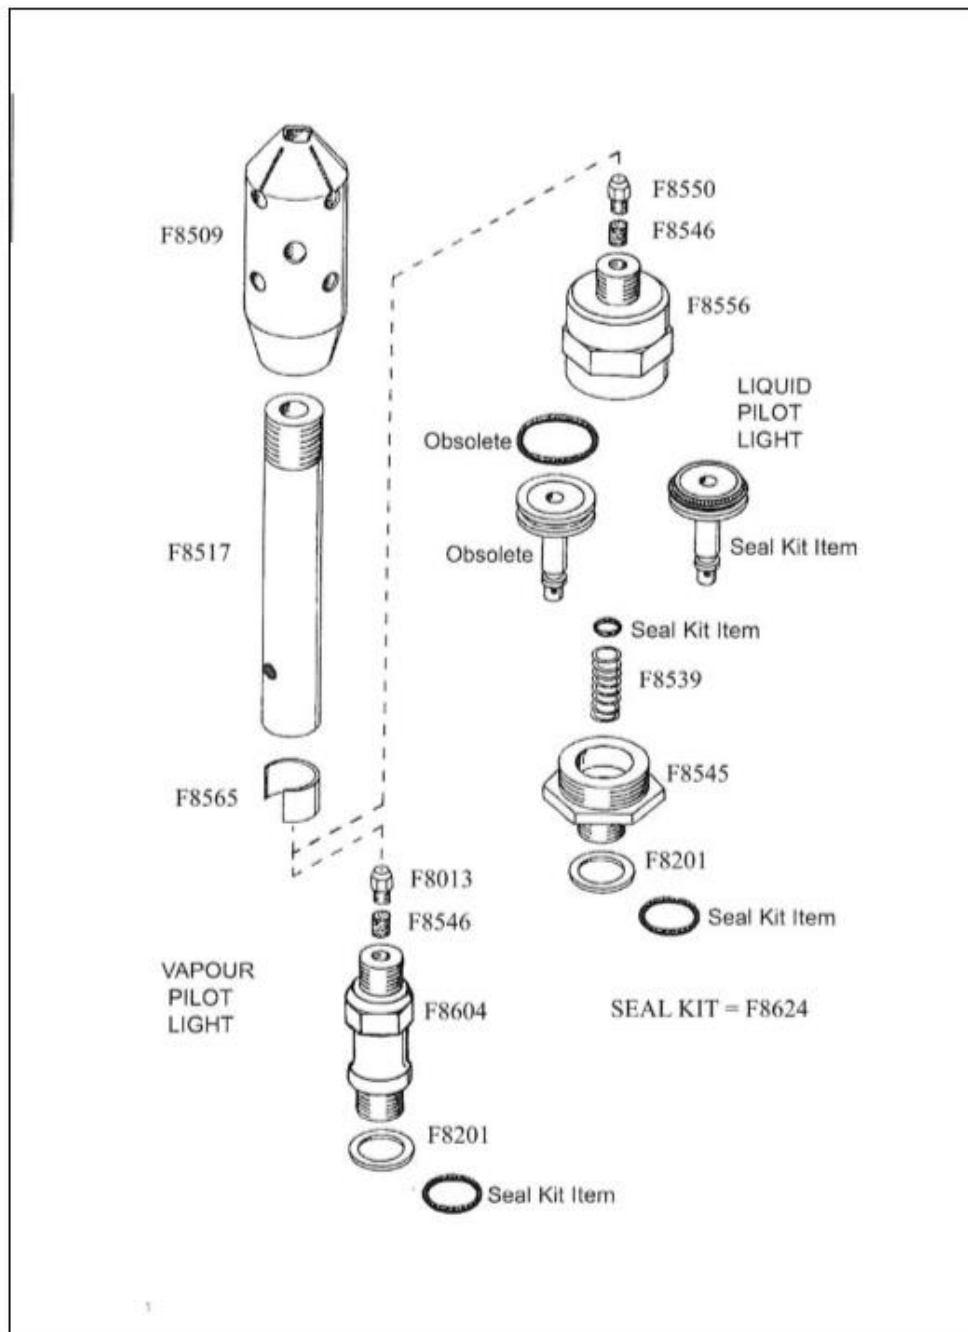

Figure 4: UPPER PILOT LIGHT
4. UPPER PILOT LIGHT: Figure 4